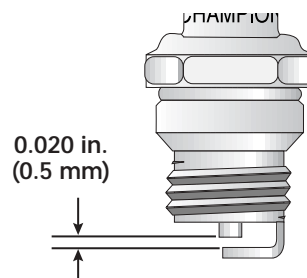

Fig. 24
3. Replace a cracked, fouled or dirty spark plug. Set the air gap at **0.020 in. (0.5 mm)** using a feeler gauge (Fig. 24).